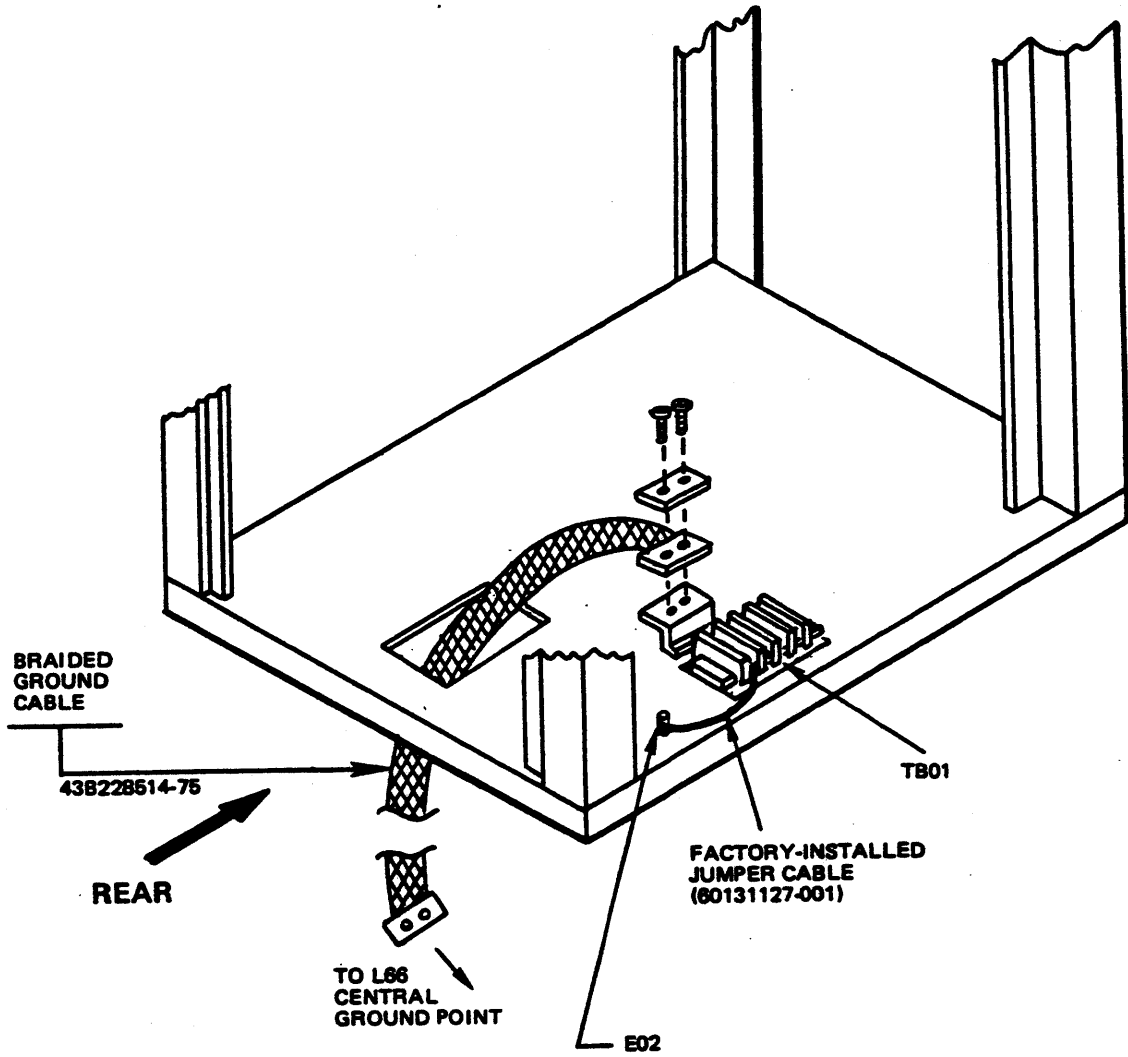
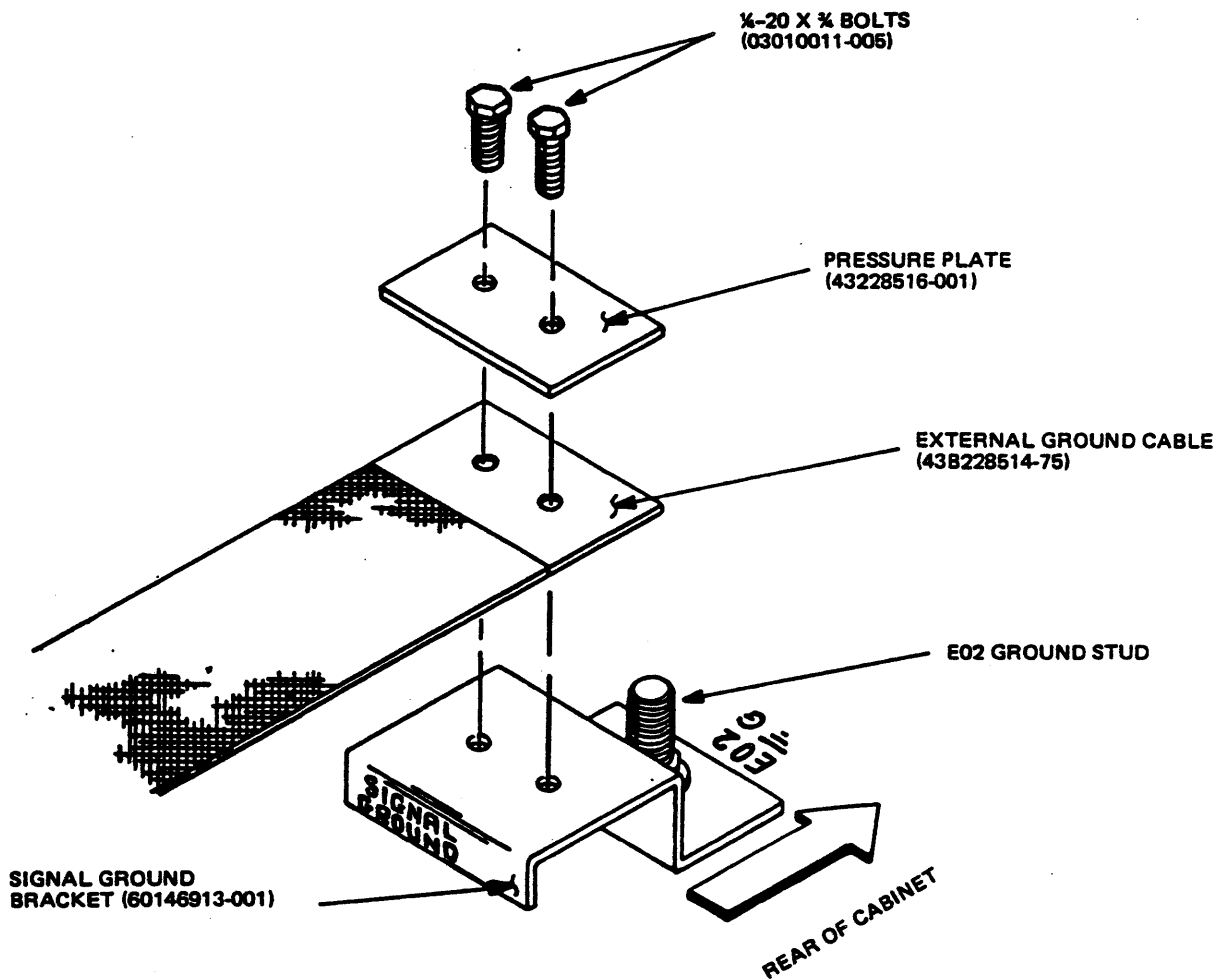

Figure 3-53 Ground Cable Installation --
Figure 3-53.1 Ground Cable Installation --
3. If the system cabinet has a TB01, connect the ground cable (43B228514-75) from the L66 to TB01 in the bottom of the cabinet (see Figure 3-53). If the system cabinet doesn't have a TB01, connect the ground cable as shown in Figure 3-53.1.